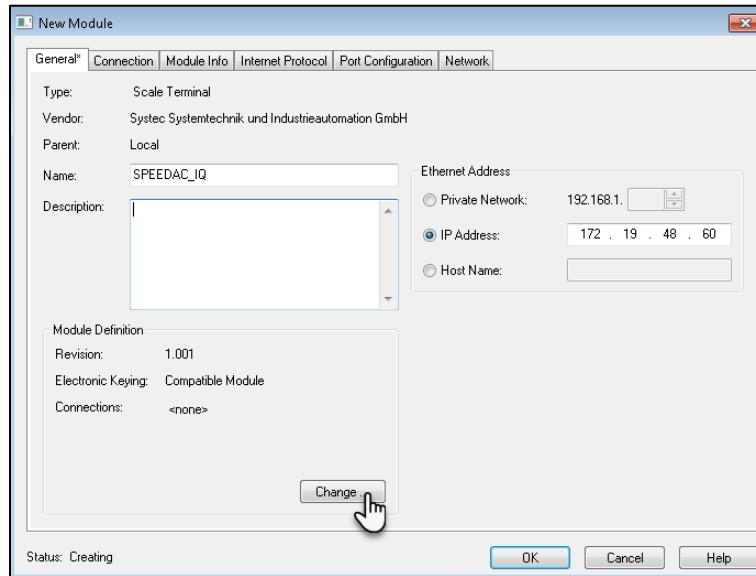

Figure 24: Network Parameter Module Window
- Give a name to your new module and set its **IP address** as well. Please refer to section 2.2.2 for further details (see **Figure 24**).